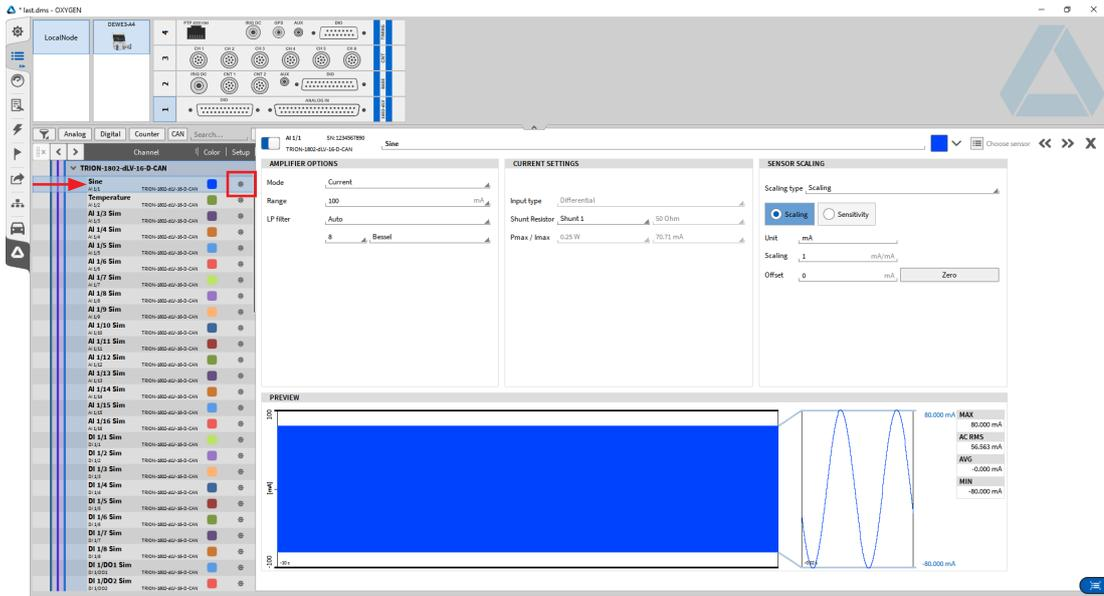

Fig. 31: Changing channel settings
2. Alternatively, the channel settings will also open by clicking on the gear button (see *Fig. 31*).